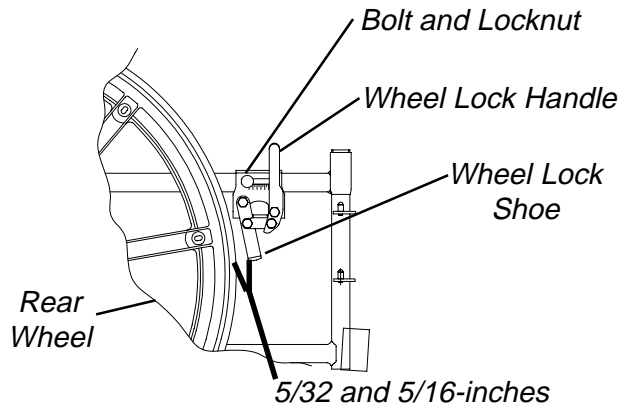

**FIGURE 3 - ADJUSTING THE ANTI-TIPPERS**
**Adjusting The Anti-tippers (FIGURE 3)**
2. Press the release buttons near the wheeled portion of the anti-tipper and slide it up or down to achieve the 1-1/2 to 2-inch clearance (FIGURE 3).